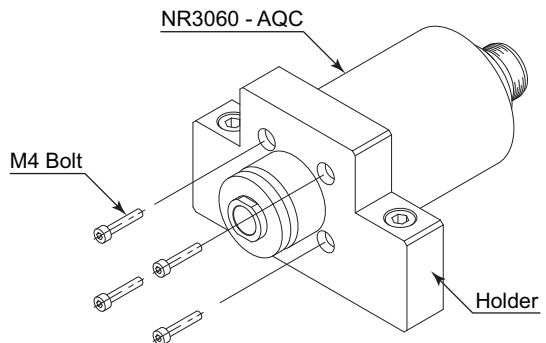

Fig. 16
- (1) Insert the Spindle housing diameter (ϕ 30mm) area into the fixed base holder of the machine.
- (2) Secure the Spindle into holder using the M4 bolts (4pcs.) by threading them into the (4 locations) of the Spindle Mounting locations as shown in Fig. 16.